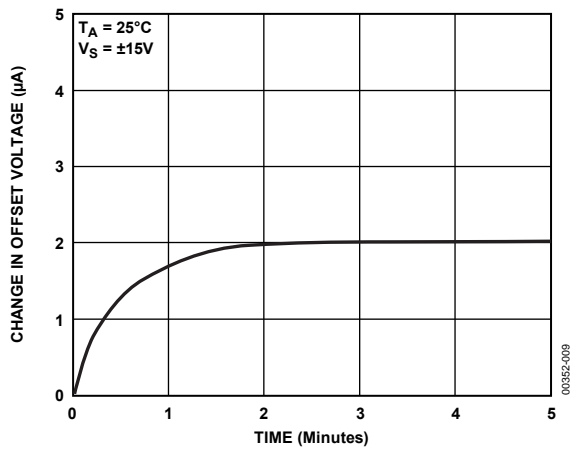

Figure 8. Warm-Up Offset Voltage Drift
- The device has to be warmed up for at least five minutes. As shown in the warm-up drift curve (see Figure 8), the offset voltage typically changes 2 μV due to increasing chip temperature after power-up. In the 10 sec measurement interval, these temperature-induced effects can exceed tens of nanovolts.